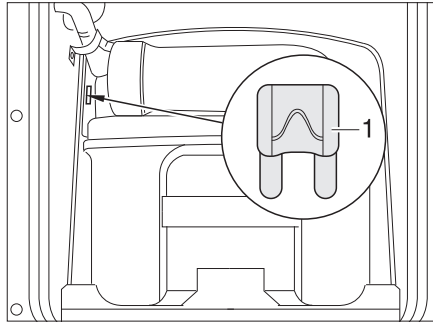
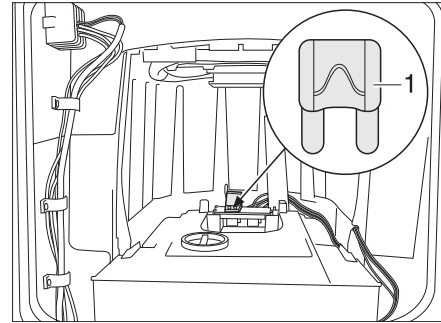

Fig. 291 Fuse for the Thetford toilet
Fig. 292 Fuse for the Thetford toilet (alternative)
- Replace fuse (Fig. 291,1 or Fig. 292,1).